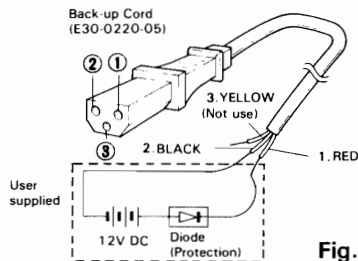

Fig. 3-4
- (1) A power cord should be connected directly to the battery terminal.
- (2) A back-up supply (W09-0004-05) should be used. In either case, back-up current of about 2 mA is required.
6. If you wish to retain the memories even when changing the installation between the car and the fixed station, utilize a back-up cord as shown in Fig. 3-4.